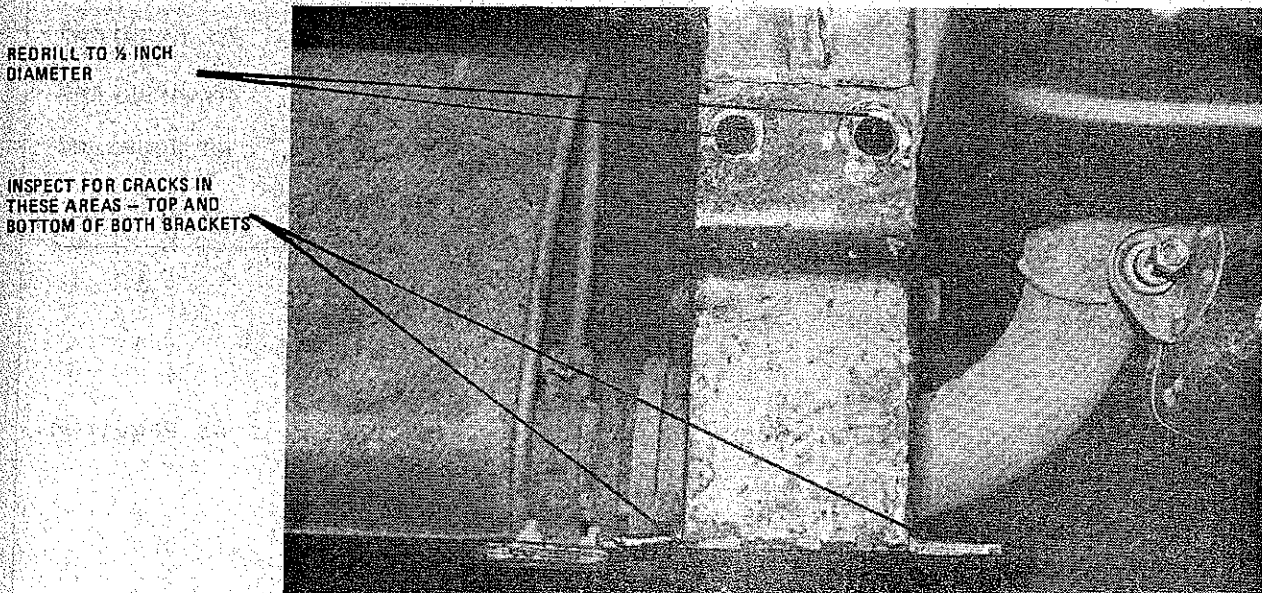

FIG 2 - LH BUMPER BAR MOUNTING BRACKET
- Clean and inspect the bumper bar mounting bracket flanges (Fig 2) for signs of cracking.
- f. All welding repairs are to be carried out in accordance with WKSP B 002-1 employing either Manual Metal Arc Welding (MMAW) and item 1 from Table 1 or Gas Metal Arc Welding (GMAW) using items 2 and 3 from Table 1.
- g. Re-drill the existing two holes in the ends of each chassis rail as shown in Fig 2 to 1/2 inch diameter.